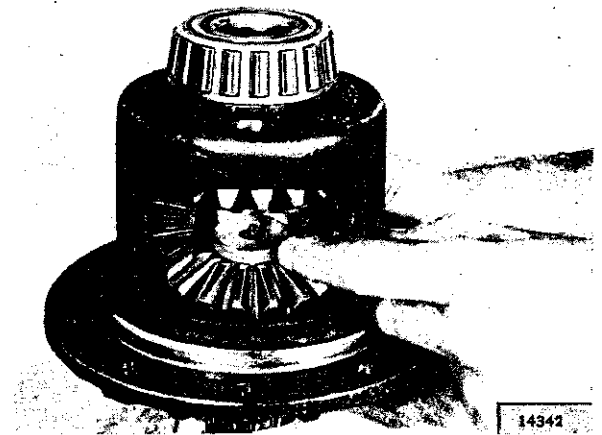

FIG. N-46—INSTALLING STEP PLATE TOOL
j. Assemble the step plate tool into the bottom side gear, as shown in Fig. N-46.
f. Assemble the step plate tool into the side gear as shown in Fig. N-46. Apply a small dab of grease into the centering hole of the step plate tool.